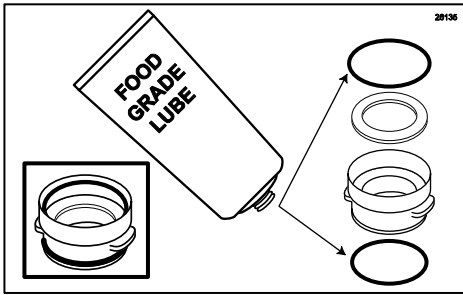

Figure 88
7. Lube the black o-rings and install them with the white gasket in their respective positions on the Spout Adapter. (See Figure 88.)